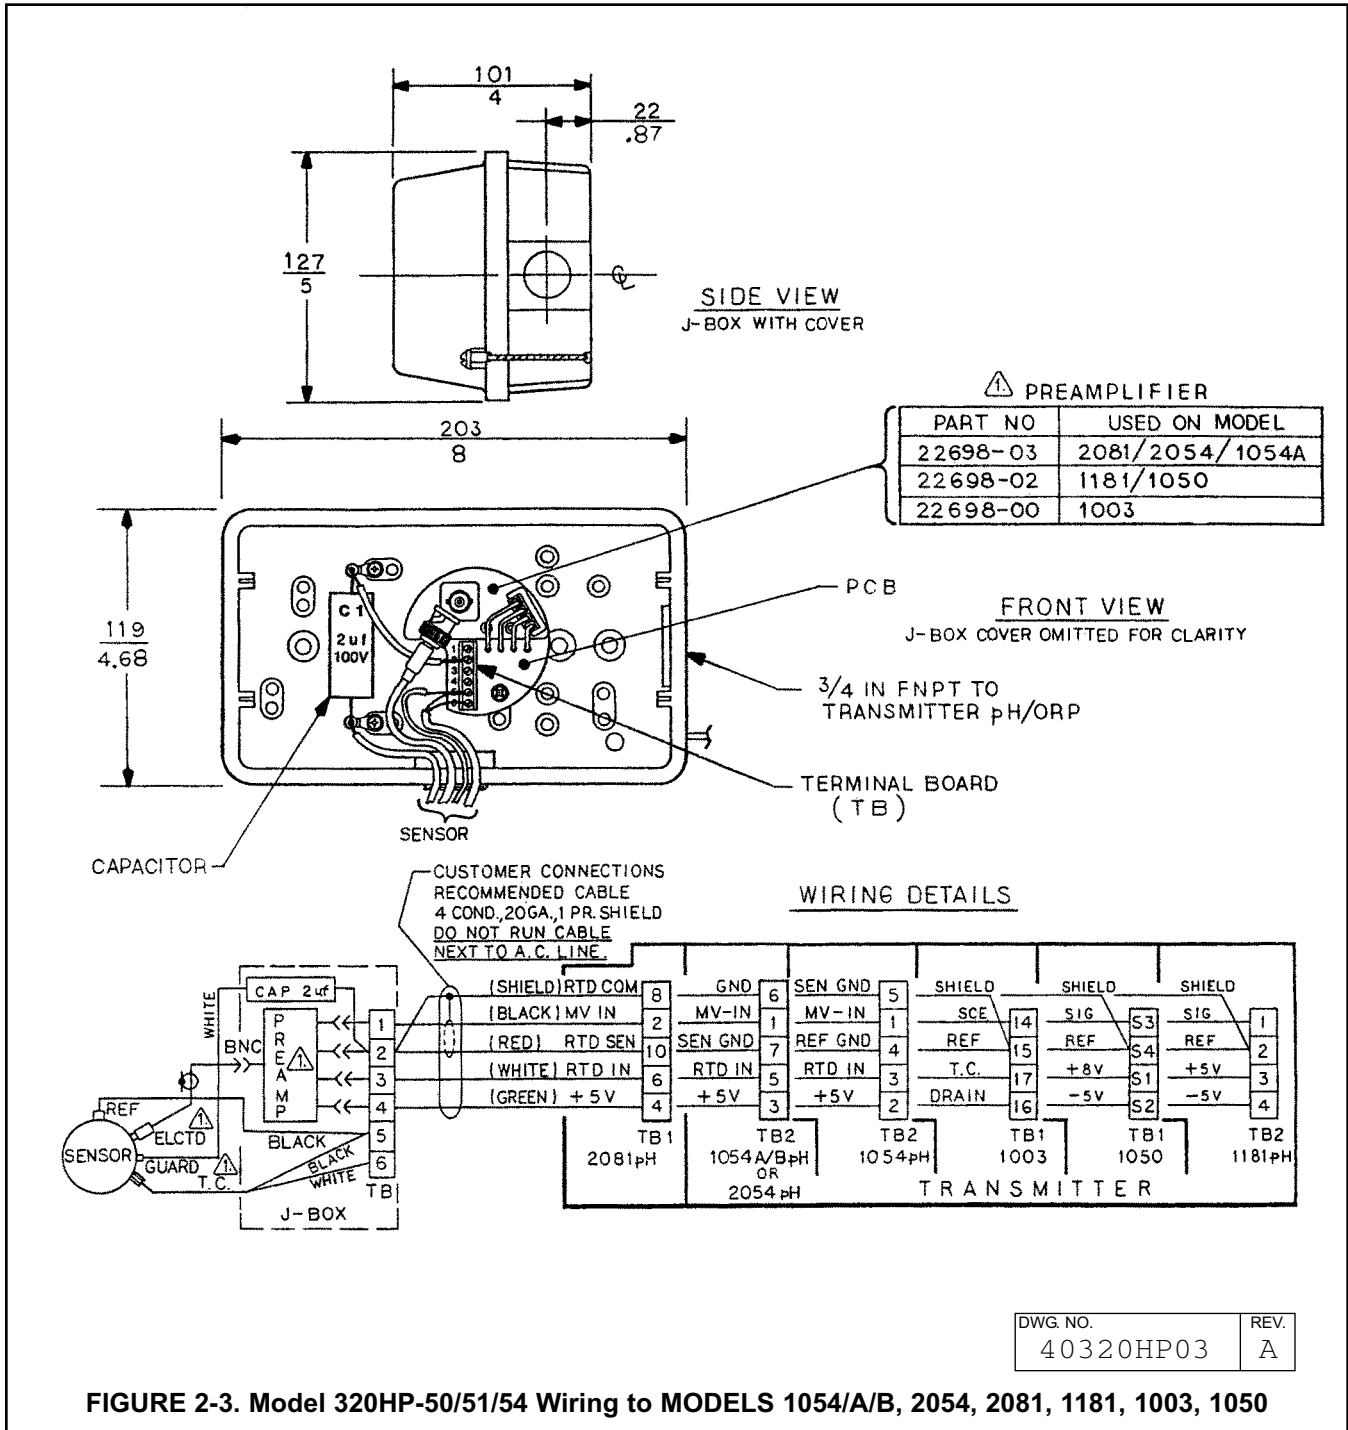

FIGURE 2-3. Model 320HP-50/51/54 Wiring to MODELS 1054/A/B, 2054, 2081, 1181, 1003, 1050
**2.3.2 Electrical Installation.** Figures 2-3 through 2-10 provide the guidelines for wiring the 320HP sensor to the ABS junction box with a built-in preamplifier to various analyzer/transmitter instruments.
3. Check all electrical connections for security. Make sure all wires are properly dressed so they do not short or ground. Make sure the instrument is wired as illustrated in Figure 2-3 through 2-10.